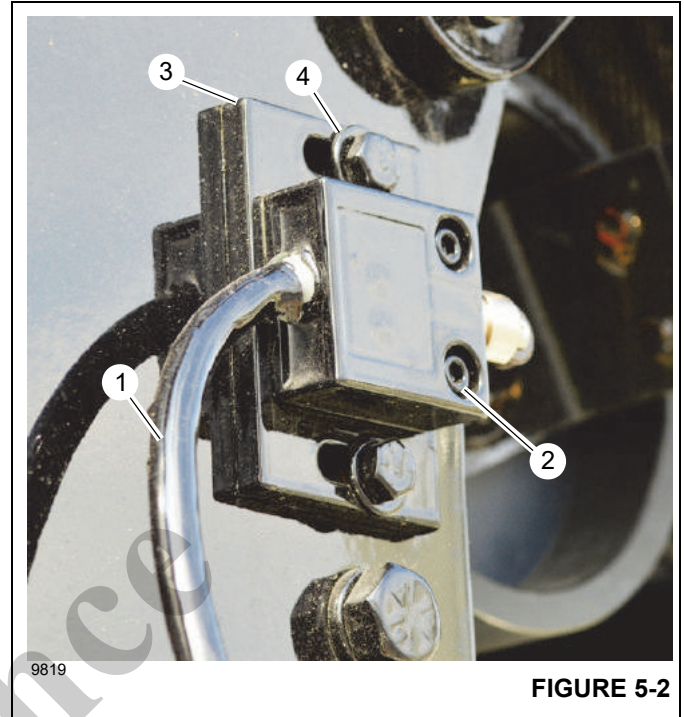

FIGURE 5-2
The 3rd Wrap Indicator is integrated in to the RCL system. The 3rd wrap indicator assembly (Figure 5-2) is located on the bearing support (left) side of the crane hoist. The 3rd Wrap Indicator is designed to notify the operator when three wraps of wire or synthetic rope remain on the hoist drum.
1. Disconnect the 3rd wrap cable (1, Figure 5-2) from the 3rd wrap indicator connector located inside the hoist frame.
2. Remove capscrews (2) and remove the 3rd wrap indicator assembly from the plate (3).
3. Remove capscrews and washers (4) and remove the 3rd wrap indicator plate (3) from the hoist.